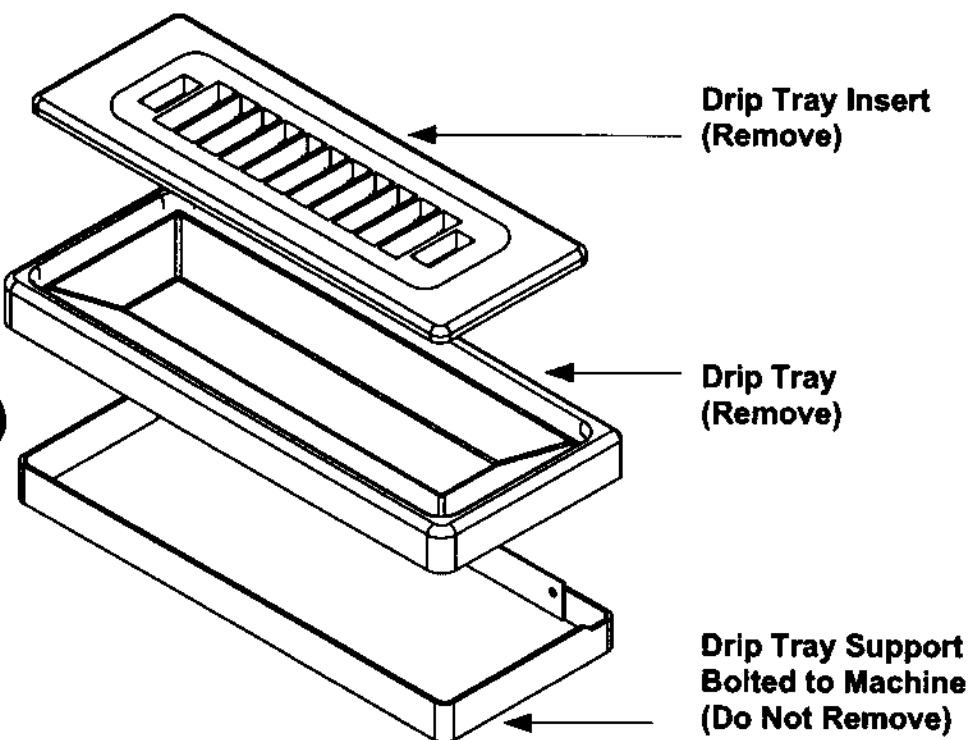

Fig. 18
10. Remove the mix pan lid, mix pan agitator, drip tray and drip tray insert (Fig. 18).